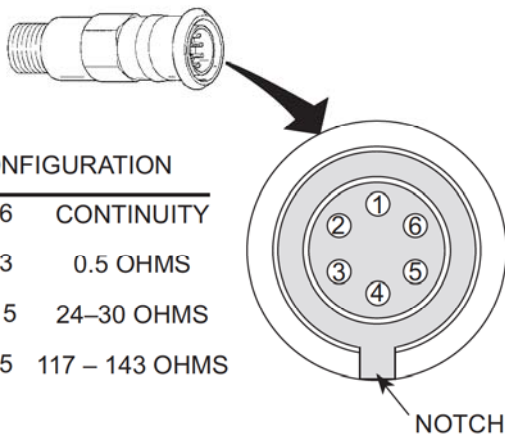

Figure 12-5. Glow Plug Controller
**b. Using multimeter, check glow plug internal resistance (Figure 12-5)**